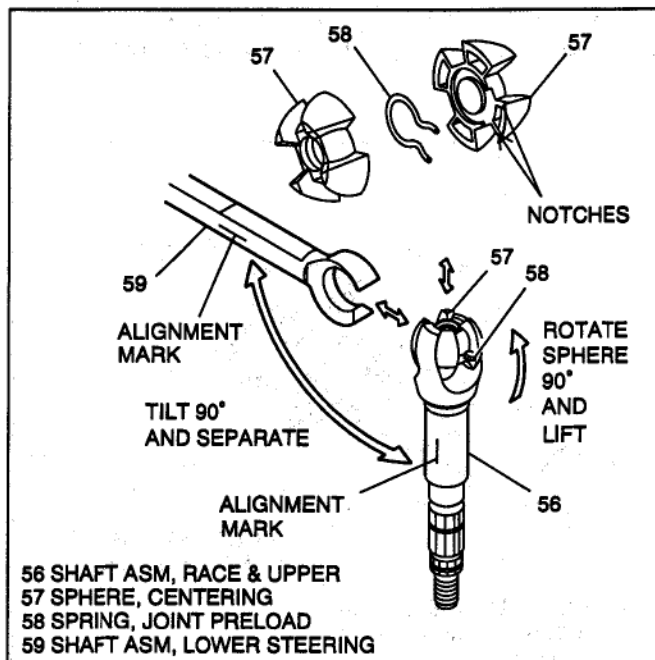

Figure 25 - Removing Steering Shaft Components
- Mark upper shaft assembly (56) and lower steering shaft asm (59) to ensure proper assembly. Failure to assemble properly will cause steering wheel to be turned 180 degrees. (See Figures 25 and 26)